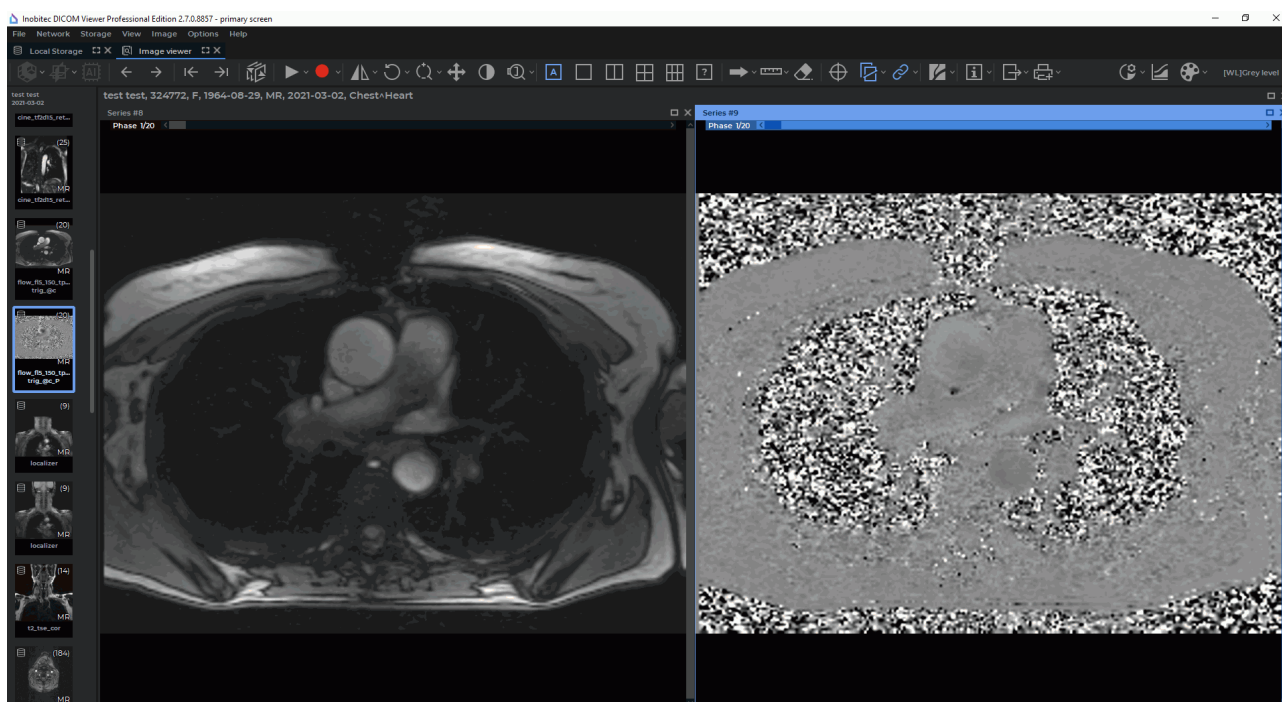

Figure 2.42: The windows for MAG MRI and PC MRI series have been opened in the flat image viewer tab
1. Open a suitable magnitude MRI (**MAG MRI**) series and the respective phase-contrast MRI (**PC MRI**) series in the flat image viewer window (Fig. 2.42). Make sure that the images have been sorted by number and phase (for details see Section 2.1). Each pair of series (**MAG MRI** and **PC MRI**) that can be used for blood flow analysis represents a separate slice.